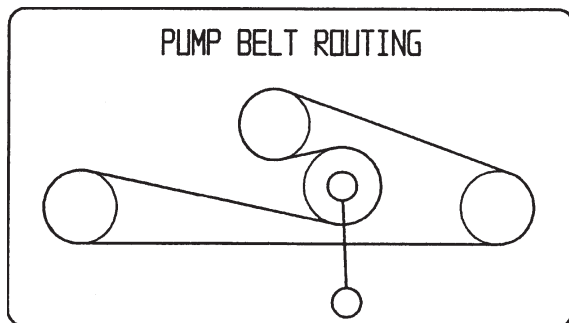

Figure 57
1. Pull spring loaded idler down and remove traction belt from the engine and hydro pump pulleys (Fig. 57). Remove belt between pulleys.
2. Install new belt around engine and hydro pump pulleys (Fig. 57).
3. Pull spring loaded idler down and align below traction belt. Release pressure on spring loaded idler (Fig. 57).